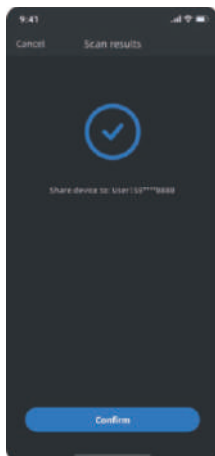

Figure 3
3)Figure 3: When there is only one device under your name, click **"Confirm"** to complete the sharing;If it fails, you can follow the prompts to share again.